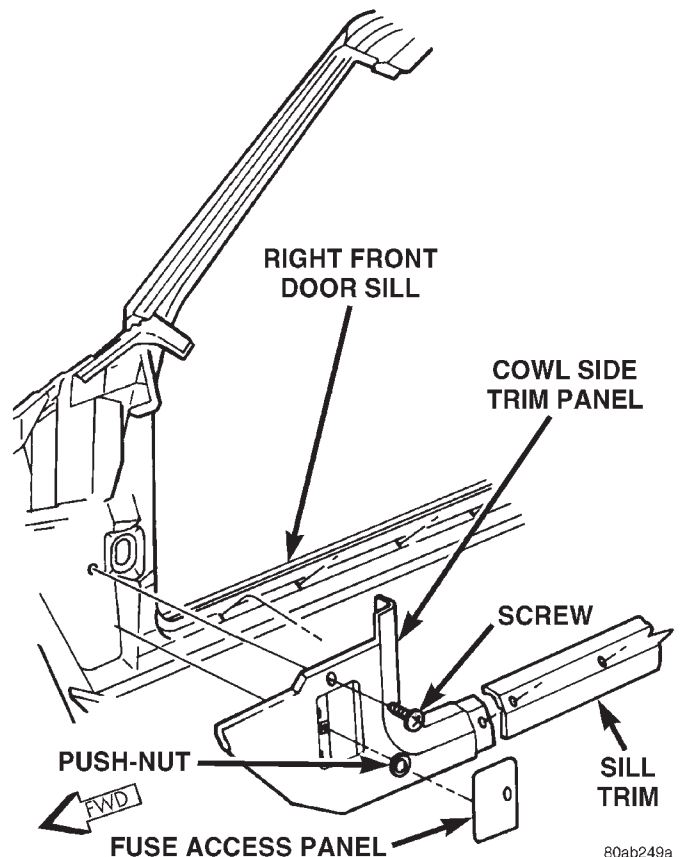

Fig. 3 Right Cowl Side Inner Trim Remove/Install
(1) Disconnect and isolate the battery negative cable.
(2) Remove the fuse access panel by unsnapping it from the right cowl side inner trim panel (Fig. 3).